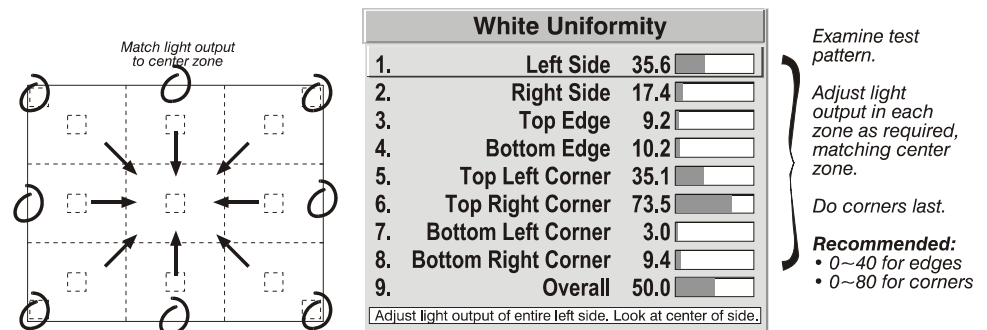

Figure 3.18. Match Zones to Center Light Output
- 3a)** For each screen, compare the light output of each *edge* and *corner* to that of the *center*. If any of the areas differ, use the *White Uniformity* menu to match edges and corners to the center as described below (see Figure 3.18). Begin with the screen exhibiting the most obvious variations in light output.